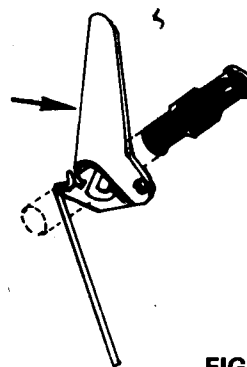

FIGURE 29
- Position the clutch handle so that it is all the way up. See Figure 29. Tighten the Tractor Clutch Rod in the rod adaptor with the setscrew.